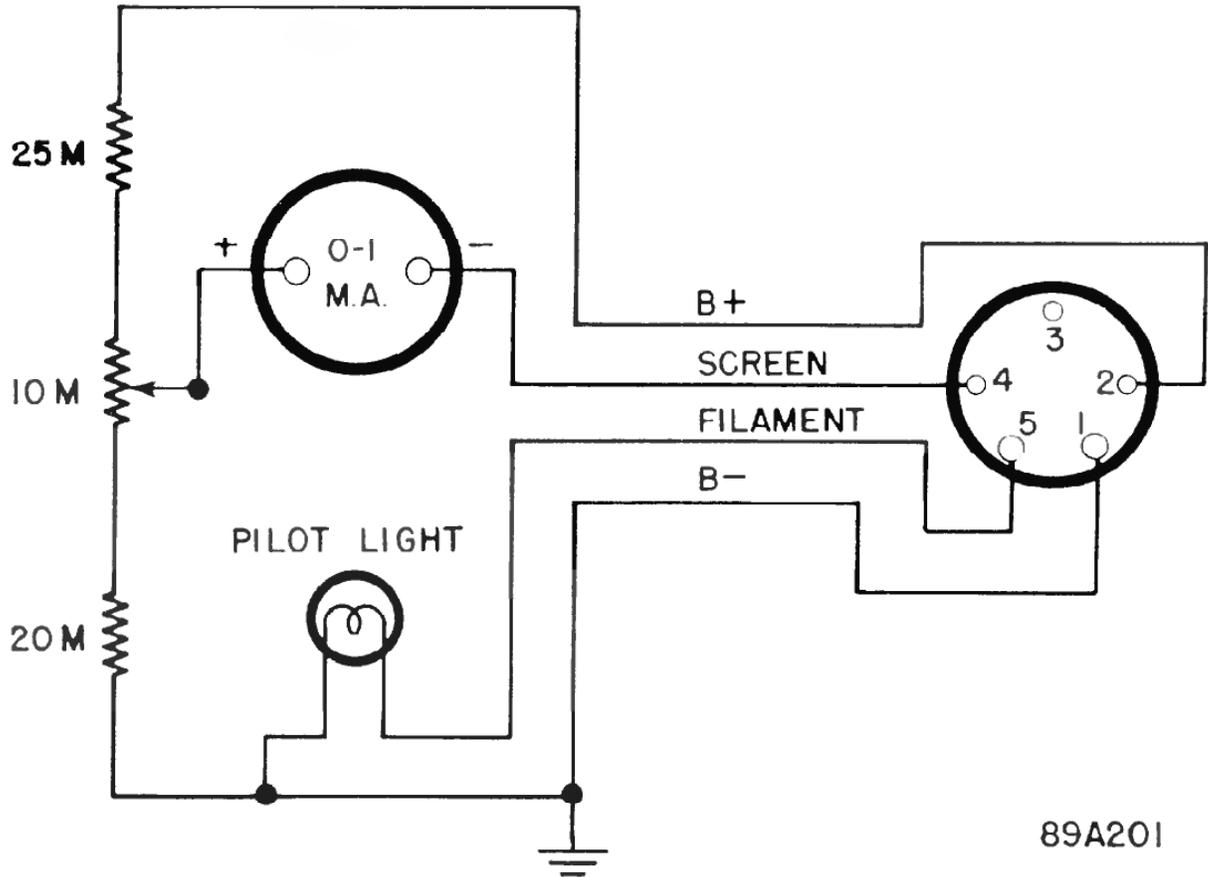

Figure 4-2. Tuning meter SM-40 and schematic wiring diagram.
i. **Tuning Meter.** - The tuning meter "S METER" is not supplied with the receiver, but can be purchased on request from the company. Provision has been made on the rear apron of the receiver for the external connection of the "S" meter. A five prong plug is wired to the meter as indicated in figure 4-2 and should be plugged into socket 80-2. When metering reception, the meter measures a voltage drop across resistor R-27 e. i. a change in screen current of first and second i-f amplifier tubes V-4 and V-3.